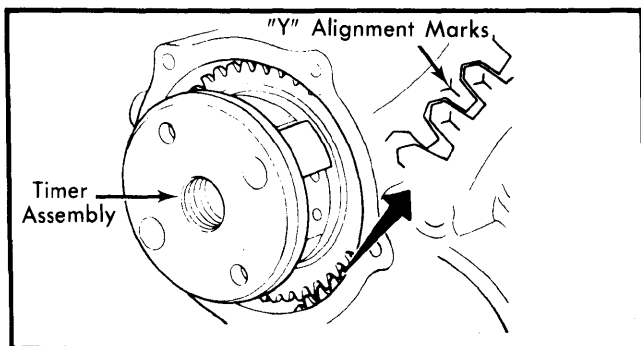

Fig. 12 Injection Pump Drive Gear Installation
**Installation** – 1) With No. 1 cylinder at TDC, hold injection pump loosely in place. Do not tighten retaining nuts. Mesh injection pump drive gear with idler gear, being sure to align the "Y" marks on the gears. See Fig. 12. Align gear to key way of injection pump camshaft while turning crank pulley. Tighten injection pump and timer assembly retaining nuts. Adjust injection timing.